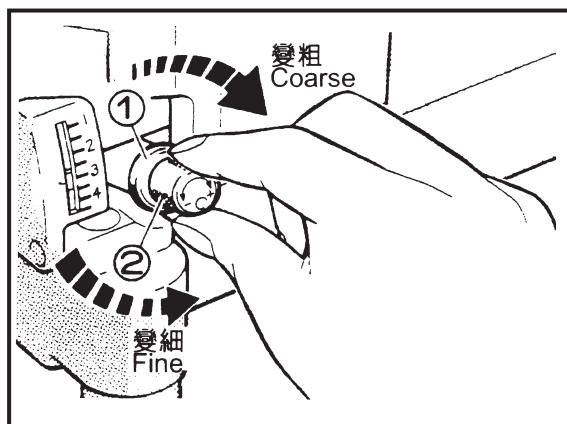

Fig.14 (MJ2600)
Turn Knob ① clockwise, the stitch length becomes short, on contrary, it becomes long. (Fig.14)